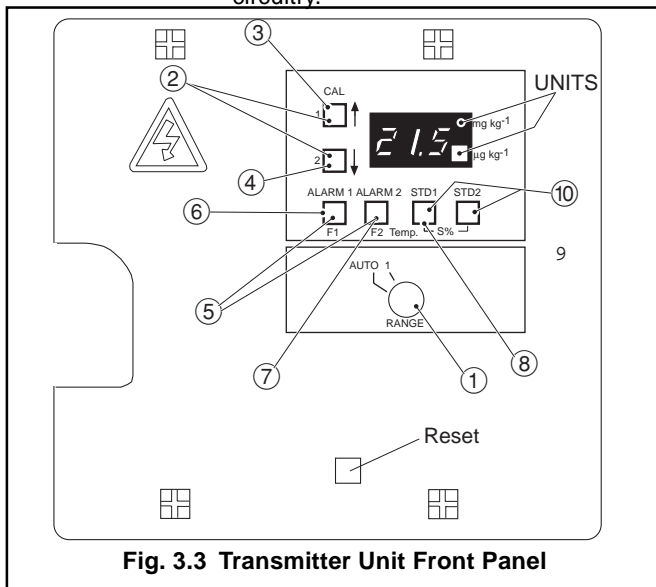

Fig. 3.3 Transmitter Unit Front Panel
3.2 Transmitter Unit (Fig. 3.3)